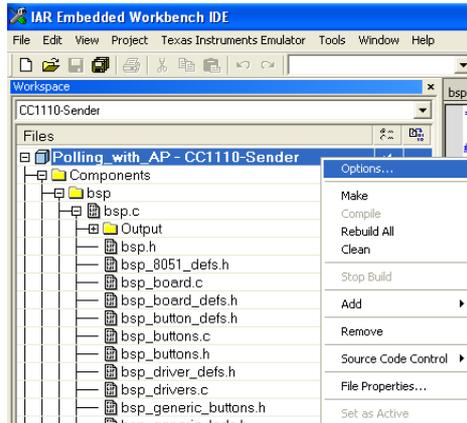

Figure 6. Options..
- Right-click on **Polling_with_AP – CC1110-Sender** and select **Options..** from the menu as shown in Figure 6.